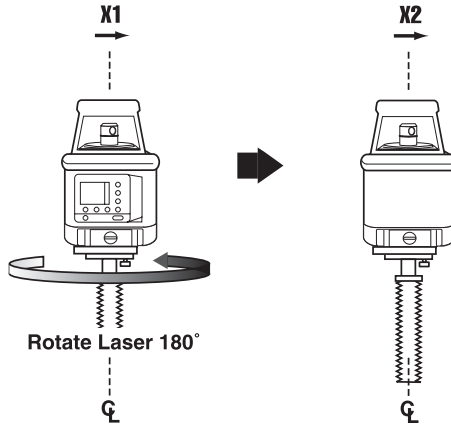

Figure 3-6. Rotate Laser
4. Rotate the laser 180° so that side two (the second X axis) points toward the grade rod (Figure 3-6).